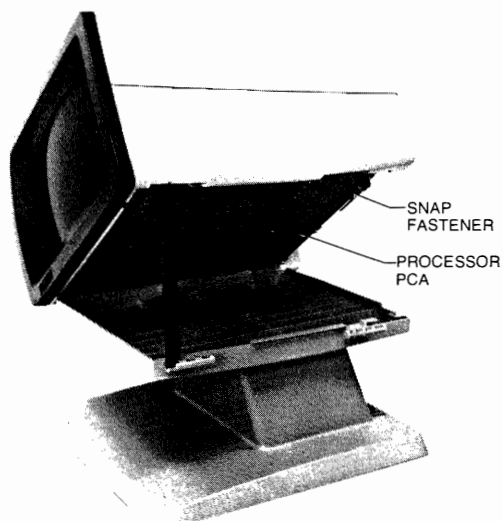

Figure 7-6. Processor PCA Removal
2. Pull outwardly on each of the four snap fasteners securing Processor PCA to mainframe bottom. Lower the Processor PCA until it rests on the support (figure 7-6).
4. Pull outwardly on each of the four snap fasteners securing Processor PCA to mainframe bottom. Lower the Processor PCA until it rests on the support (figure 7-6).